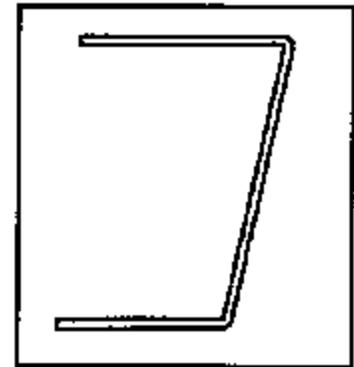
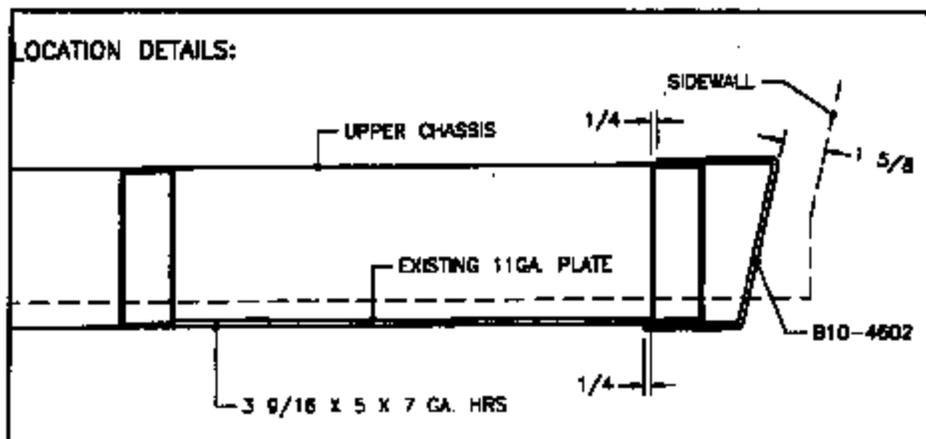
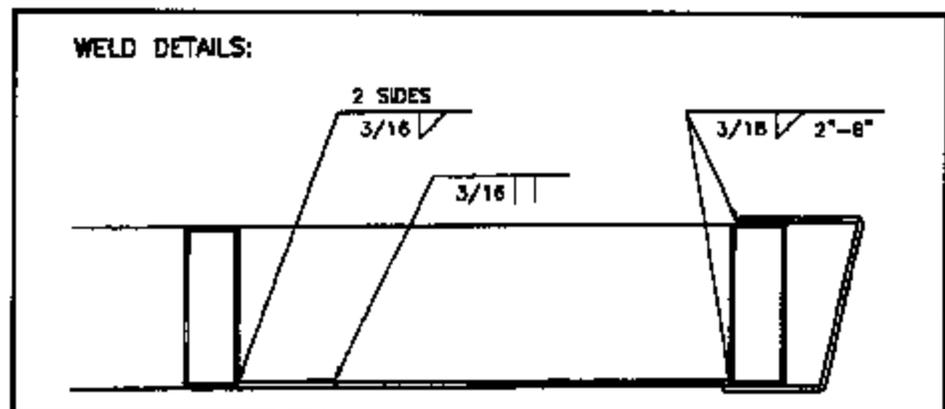

Figure 3
Figure 4
Figure 5
2. Place 7-ga. formed channel (Figure 3) over front crossmember. Grind any welds or other protrusions as required for good fit. Position as shown in Figure 4. Center on front crossmember and align ends with lower corners of sidewalls. Remember to leave $1\frac{1}{8}$ " for the front wall. Reroute wiring as required to protect from heat. Drill holes and/or extend if necessary to complete circuits after assembly. Weld formed channel as shown in Figure 5.
4. Weld 3⁹/₁₆" X 5" X 7-ga. HRS plates as shown in Figure 5. Weld previously cut ends of 1" X 1" tube to these plates.